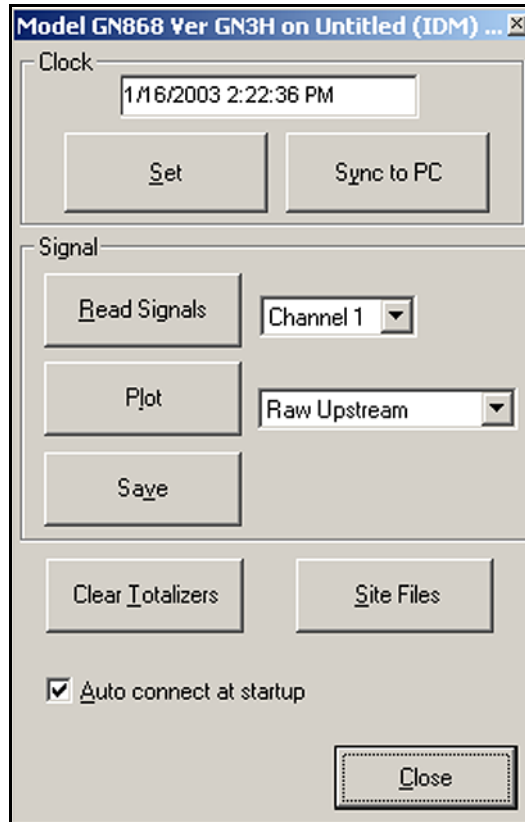

Figure 27: Properties Screen - Active Signal Options
1. Click on the *Read Signals* button. For a 2-channel meter, open the Channel drop-down menu and click on the desired channel. After a moment, a *Properties* screen similar to *Figure 27* below opens.